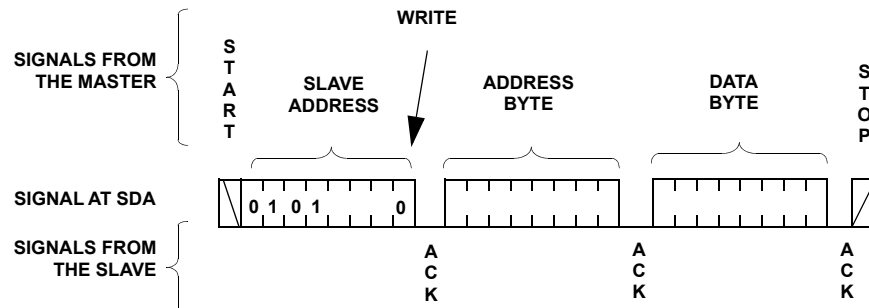
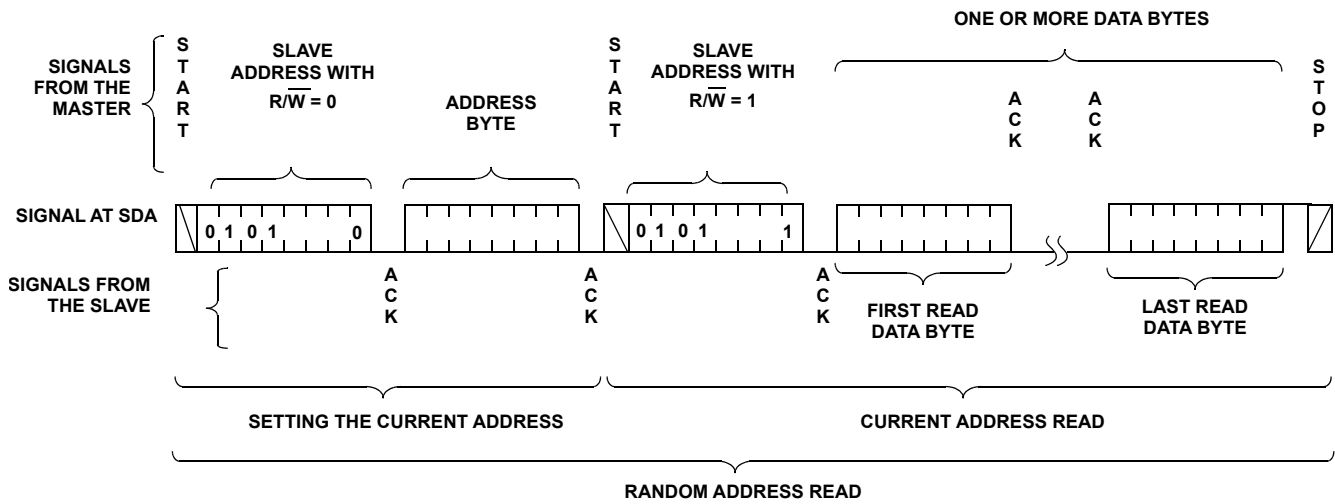

FIGURE 8. BYTE WRITE SEQUENCE
FIGURE 10. MOVE/READ SEQUENCE
14. Access the desired DR or WCR using a new write or read command (see Figure 8 for write and Figure 10 for read.)
For any Byte Write operation, the X9252 requires the Slave Address byte, an Address Byte, and a Data Byte (see Figure 8). After each of them, the X9252 responds with an ACK. The master then terminates the transfer by generating a STOP condition. At this time, if the write operation is to a volatile register (WCR, or SR), the X9252 is ready for the next read or write operation. If the write operation is to a nonvolatile register (DR), and the WP pin is high, the X9252 begins the internal write cycle to the nonvolatile memory. During the internal nonvolatile write cycle, the X9252 does not respond to any requests from the master. The SDA output is at high impedance.
The Move/Read operation simultaneously reads the contents of a Data Register (DR) and moves the contents into the corresponding DCP's WCR and the WCRs of all DCPs are updated with the content of their corresponding DR. Move/Read operation consists of a one byte, or three byte instruction followed by one or more Data Bytes (see Figure 10). To read an arbitrary byte, the master initiates the operation issuing the following sequence: a START, the Slave Address byte with the $\overline{R/W}$ bit set to "0", an Address Byte, a second START, and a second Slave Address byte with the $\overline{R/W}$ bit set to "1". After each of the three bytes, the X9252 responds with an ACK. Then the X9252 transmits Data Bytes